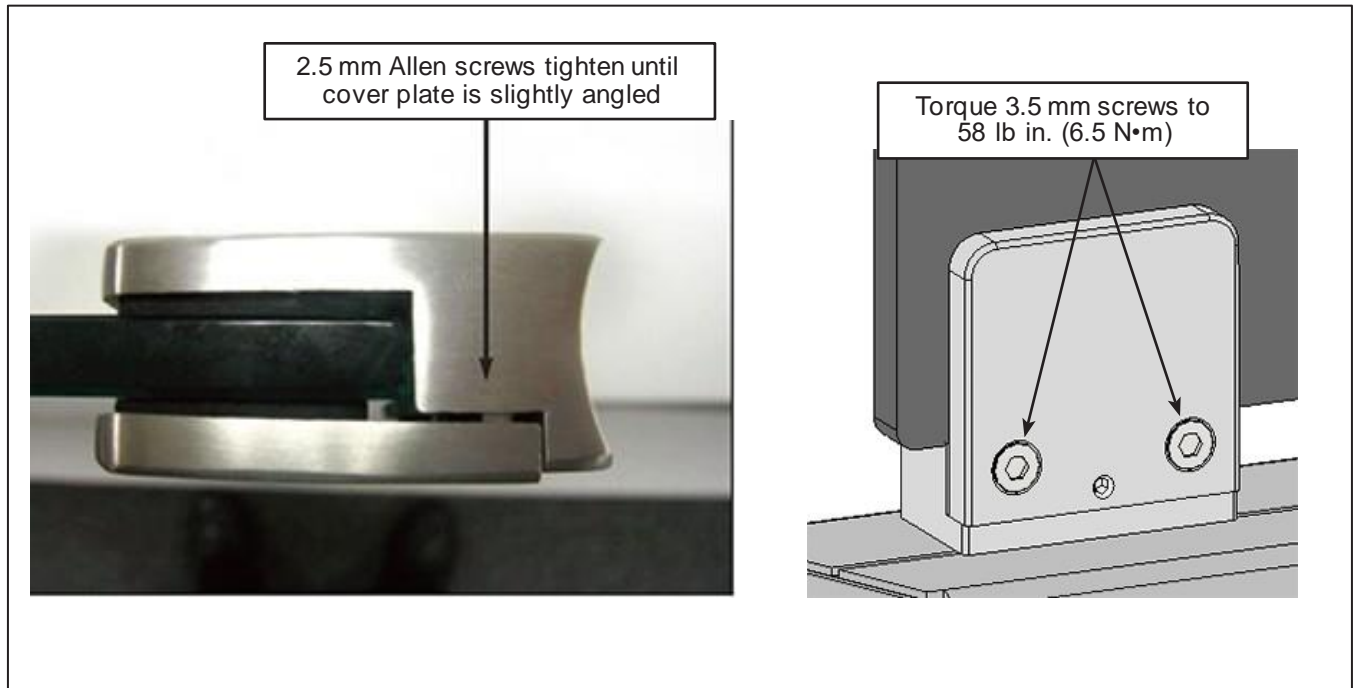

Figure 5 - Clamp Reassembly and 3.5 mm Screws Torque
- c. Tighten the 2.5 mm Allen screws until the cover plate is slightly angled. See Figure 5.
- d. Torque the 3.5 mm screws. See Figure 5 for torque value